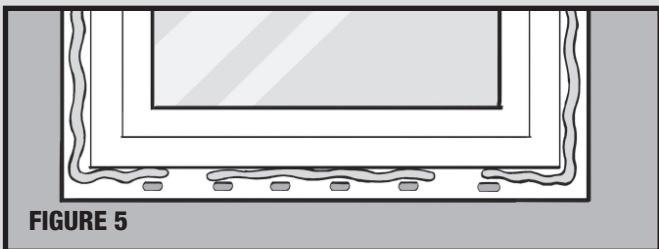

FIGURE 5
3.2.1. Apply a continuous bead of TeQ::Seal™ Window Flange Sealant to the interior side of the nailing fin, on jambs and head flanges and an intermittent bead on the sill flange. (Figure 5)